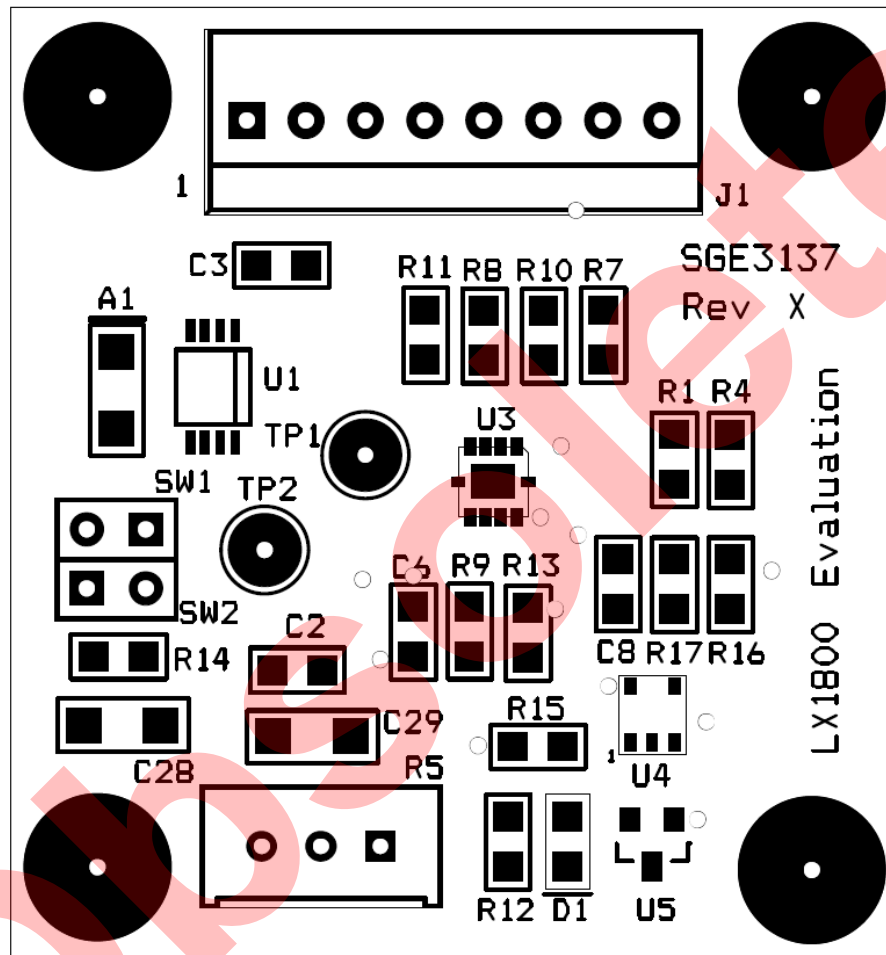

Figure 3 - LX1800 Evaluation Board Layout
**PCB Layout:** The LX1800 Eval board layout is shown in Figure 3. The LX1800 is sensitive to noise at the reference pin so this node should be a low impedance path to ground for high frequency noise. As a precaution, the REF node should be routed away from digital switching traces. The  $V_{DD}$  Pin should be decoupled to ground with a 0.1 $\mu$ F ceramic capacitor located in close proximity to the IC.